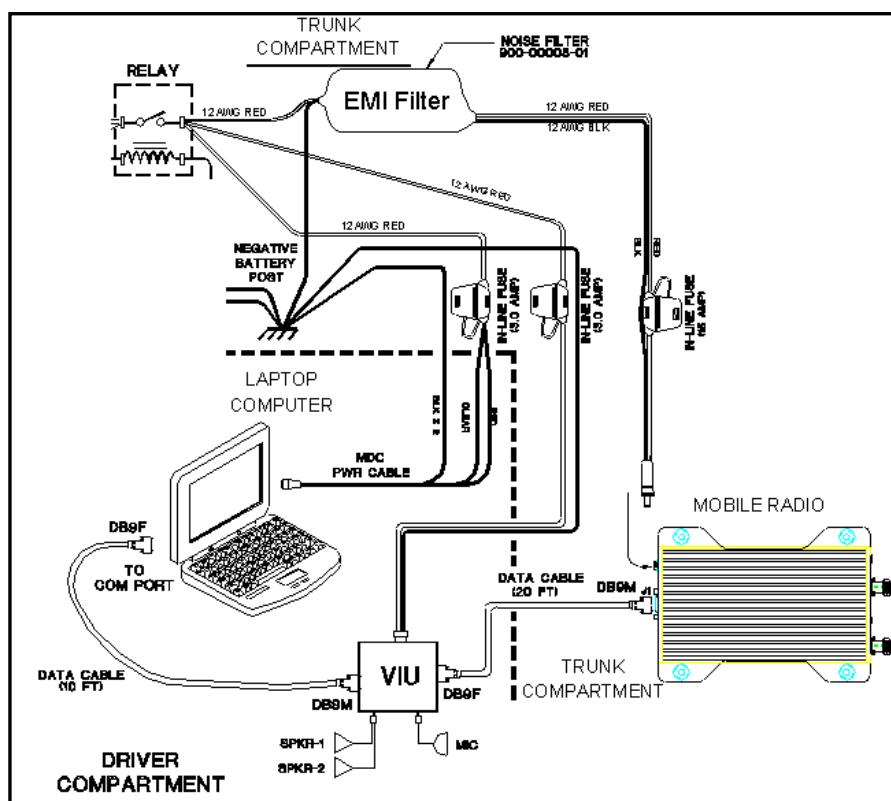

Figure 17: VIU Connections
- Step 2** Connect the red (#12 AWG) wire via an in-line fuse from the VIU power cable to the relay as shown in Figure 17 above.